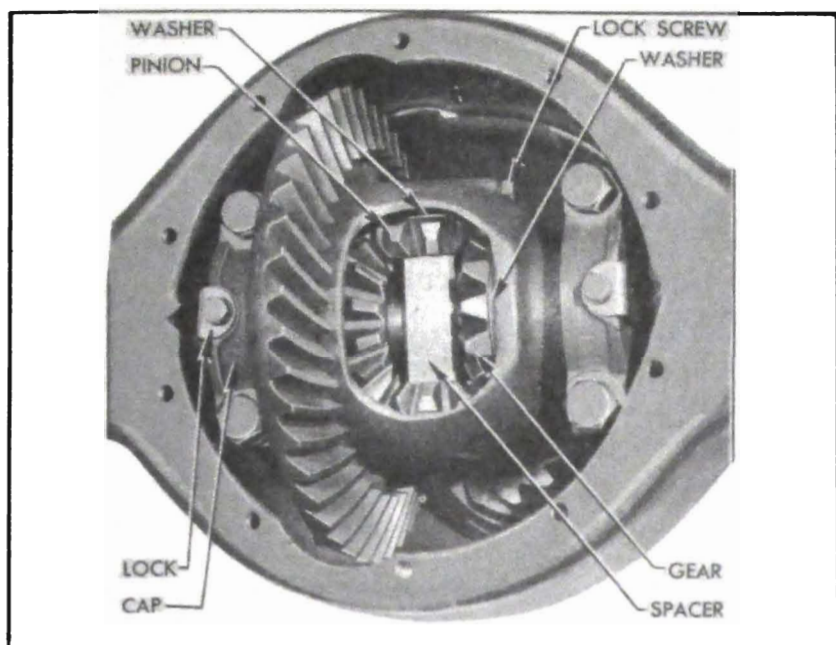

Figure 6-5—Spacer, Gears and Pinions Installed
8. After proper axle shaft end play is obtained, place side pinions and thrust washers in case and push differential side pinion shaft through case, thrust washers, and pinions. Lock shaft in place with lock screw and lock washer. See figure 6-5.